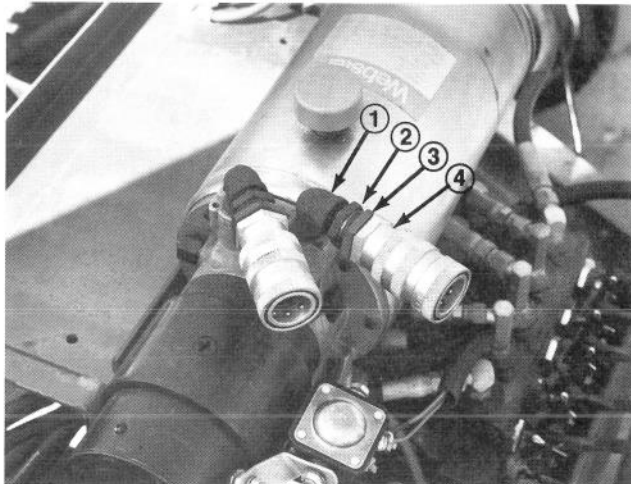

Figure 4
8. Install 90° street pipe elbows, pipe couplings, pipe reducer bushings, and quick disconnect couplers to power pack as shown in Fig. 4. Apply #2 permatex to threads of fittings before installing.